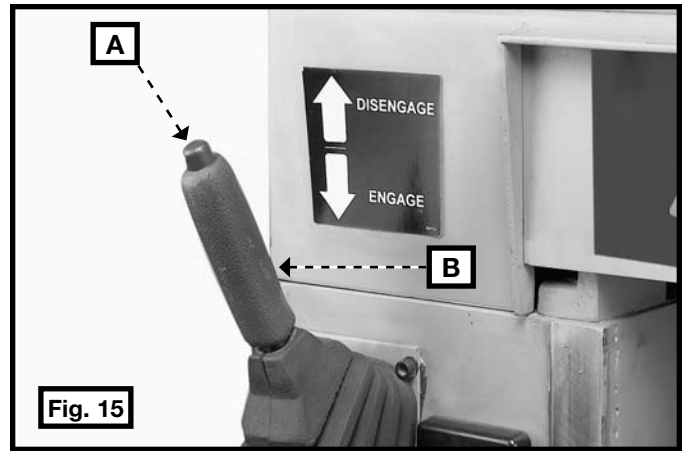

Fig. 15
2. To disengage the feed rollers, push the button (A) Fig. 15 and move the handle (B) to the raised position.